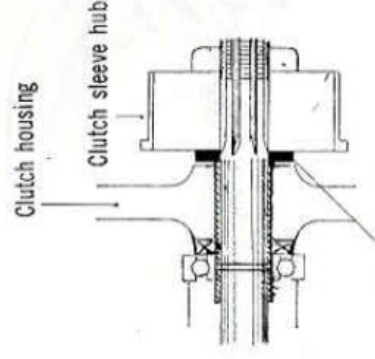

Fig. 8-3-22
- C. Be sure to place the **clutch sleeve hub spacer** between the clutch housing and the clutch sleeve hub. (Fig. 8-3-22)